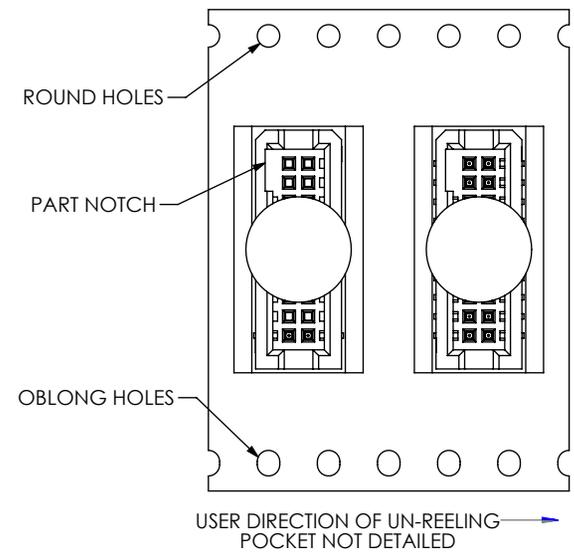

FIG 4
- TR: TAPE AND REEL (SEE FIG 4, SHT 4) (FOR -X2 ONLY) (NOT AVAILABLE WITH -RA) (SEE NOTE 13 & 14)